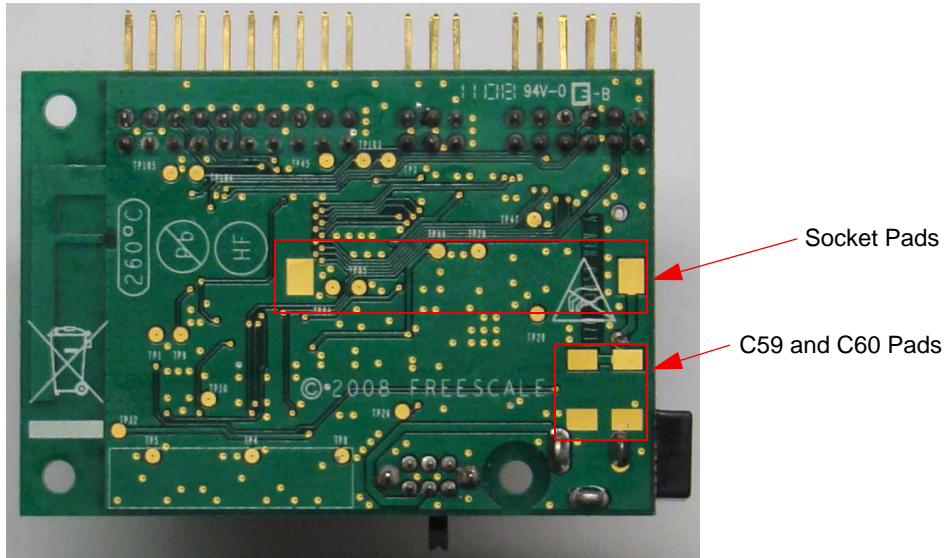

Figure 3-6. 1322x-LPB PCB Bottom View
- The bottom view of the 1322x-LPB is shown in Figure 3-6.